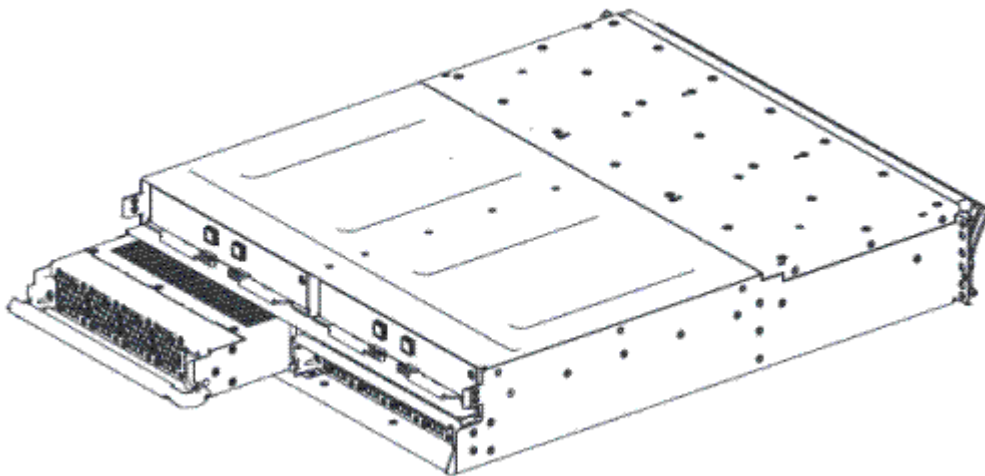

Figure 111. Removing the power supply unit from the left side of the expansion enclosure
5. Using the handle, gently slide the power supply out of the enclosure, as shown in Figure 111 on page 160.